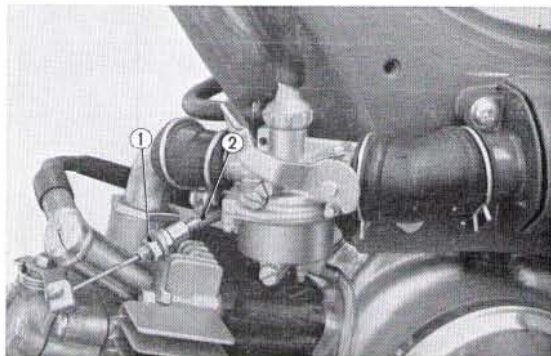

Fig. 2.1 (PC 50)
3. Disconnect the decompression cable at the engine. (Fig. 2.1)